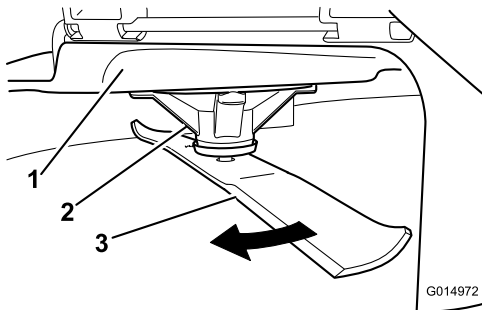

Figure 55
2. While wearing thickly padded gloves, or other adequate hand protection, slowly rotate the blade into a position that allows you to measure the distance between the cutting edge and the level surface the machine is on (Figure 55).